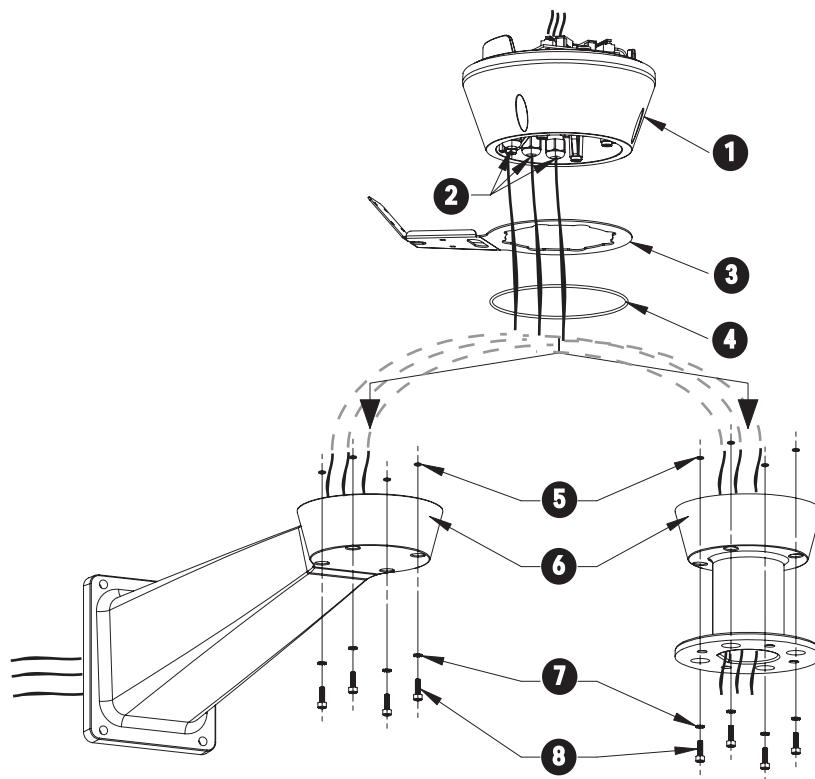

Fig. 5.1 Installing the Washer Cables
1. Attach the mount, (optional wall or pole mount) by positioning the washer pipe support in the desired position (see *Figure 5.1*).